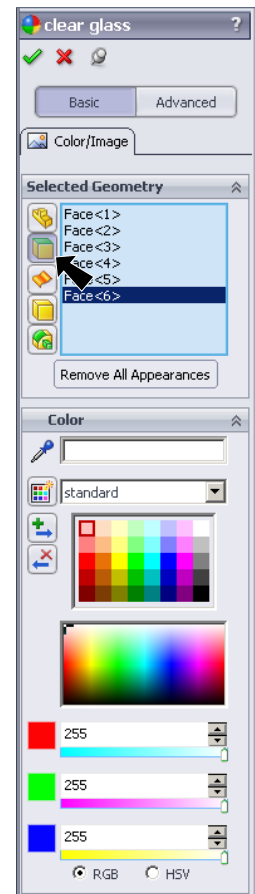

Fig. 95
Step 5. In the Appearances Property Manager, under Selected Geometry click **Select Faces** , **Fig. 95**